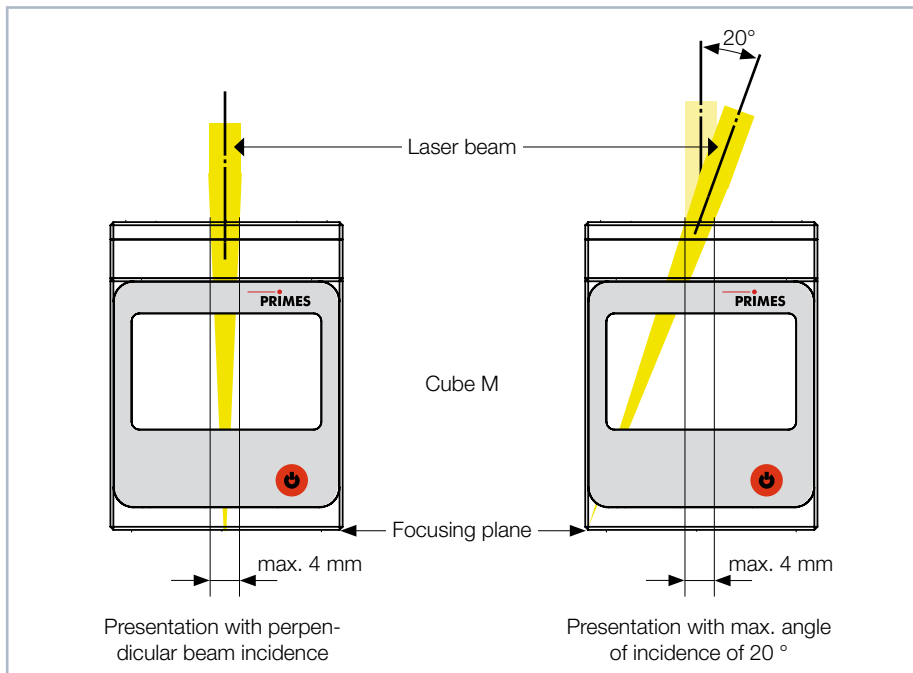

Fig. 7.1: Alignment to the laser beam
The Cube M is positioned above the focus (see Fig. 7.1 on page 12). Make sure that the laser beam is convergent and the permissible power density at beam entrance is not exceeded. The focal position of the laser beam must be located on the lower edge of the device.
1. Align the device with the laser beam as described in chapter 7.2 on page 12 and Fig. 7.1 on page 12.